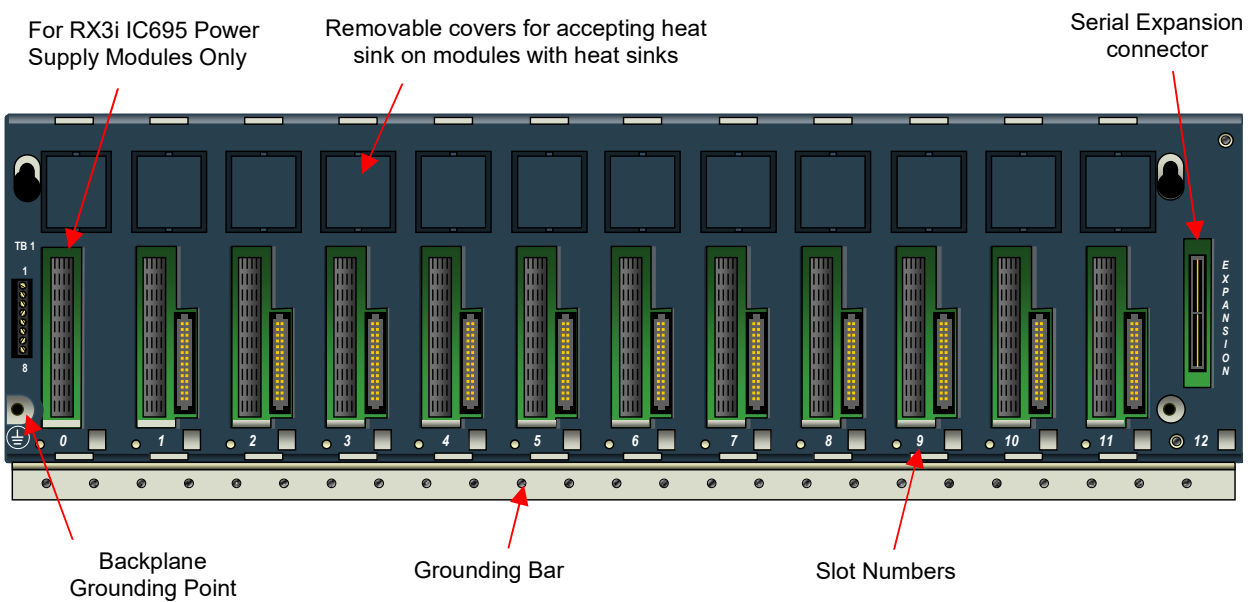

Figure 58: Features of RX3i Universal Backplanes
- Terminal Strip on the left (Figure 58) for Isolated +24Vdc input.
- Serial Expansion connector for connection (Figure 58, far right) to Serial Expansion and Remote Backplanes (12- and 16-slot models only).
- Slot numbers are printed on the backplane (Figure 58) and are used for reference for configuration in Proficy Machine Edition (PME). Slots and connectors are described on the following pages. Most modules occupy one slot. Some modules, such as CPUs and AC Power Supplies occupy two slots.